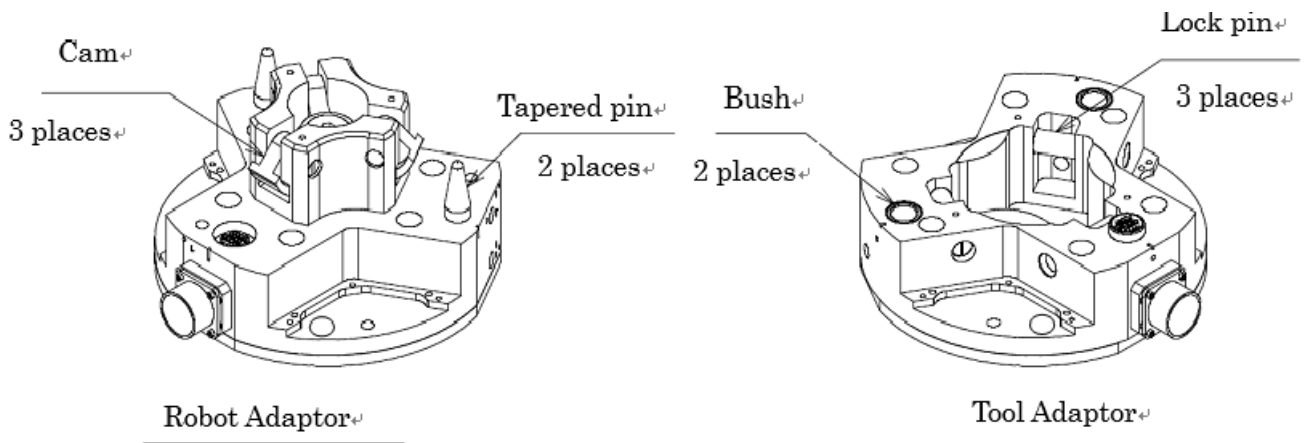

Fig. 17. Greasing point
Pressure-, heat-, and water-resistant mineral lithium composite grease or lithium grease should be applied thinly and evenly to external sliding faces (10 points in total). For new products, please check that grease has been already applied in plant. Application points are indicated in Fig. 17. (Recommended grease: SUMIPLEX BN NO. 1 (manufactured by Sumico Lubricant))
*See Fig. 17.